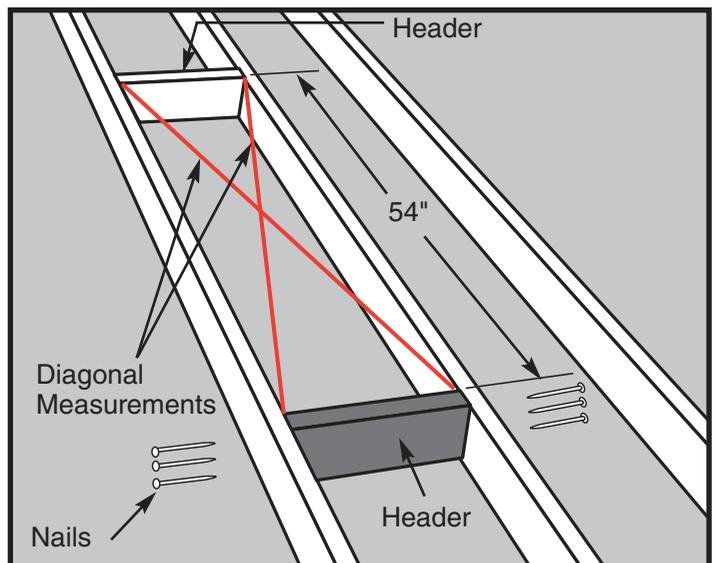

Figure 13 How to check for square
- STEP 5.** Position the second header 54" from the first one and repeat Step 4 ( See Figure 13).
- STEP 6.** The frame for the rough opening requires four sides. The headers make up two of those sides. If your ceiling joists are spaced so that they make up the other two sides of the rough opening, check the opening for squareness by measuring across the diagonals. The measurements should be within 1/8" to be considered square (See Figure 13).